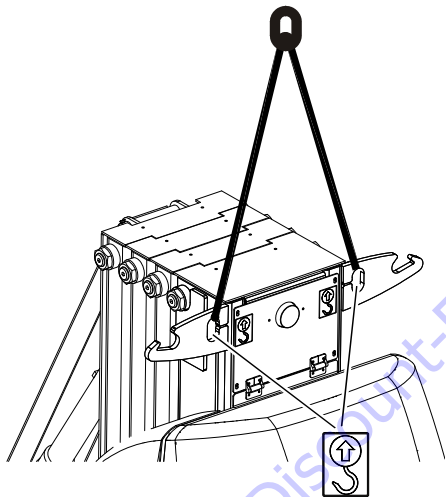

Figure 3-15. Lifting the Machine
- Attach lifting straps/chains at BOTH lifting lugs as shown in Figure 3-15.